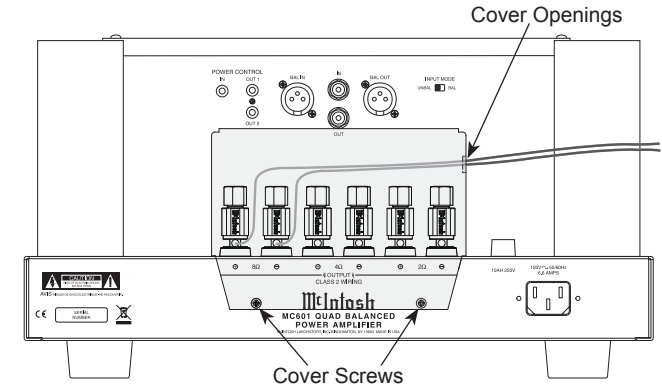

Figure 6 (Outside USA and Canada)
11. Locate the Terminal Connections Cover from the inside of the MC601 shipping carton. Insert the just prepared Loudspeaker hookup cables thru the cover opening on the right side. Refer to figure 6.
*Note: The illustration in figure 6 is connections for 8Ω (ohms) Loudspeakers.*
13. Attach the Terminal Connections Cover to the MC601 Rear Panel with the previously removed Screws. Refer to figure 6.